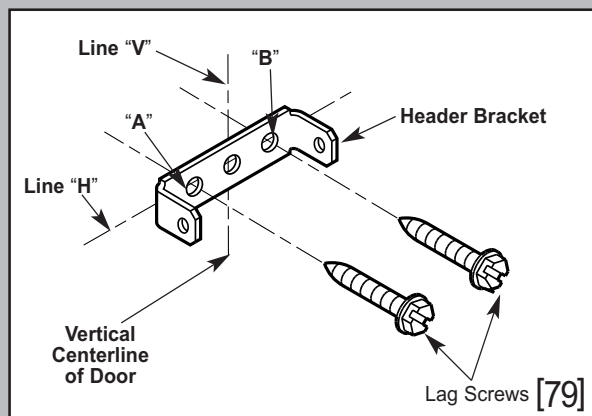
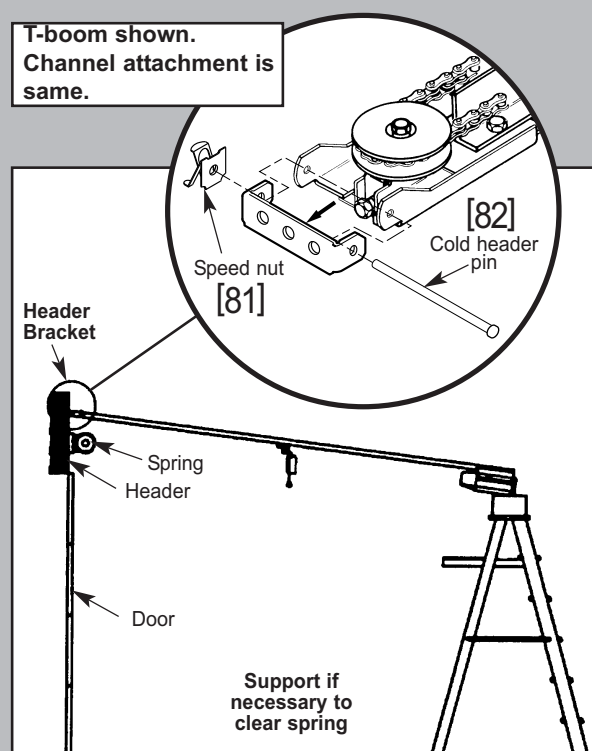

Fig. 2-3
Fig. 2-4
3. Install header bracket (Fig. 2-3)
- Fasten bracket to header using two (2) 1/4" x 2" lag screws [79].
4. Attach channel/boom assembly to header bracket (Fig. 2-4).